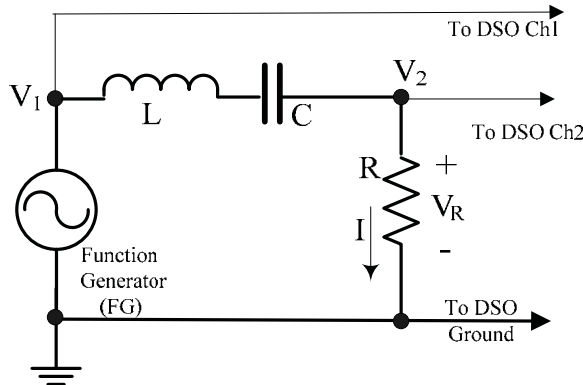

Figure 3.4
to change from negative values (current  $I$  leads voltage  $V$ ) to positive values (current  $I$  lags voltage  $V$ ). **The above ‘lead’ and ‘lag’ situations can be seen on (and measured from) the DSO display of the  $v(t)$  and  $i(t)$  waveforms.** Since an oscilloscope basically displays voltage inputs, it will be necessary to obtain a voltage signal that is directly proportional to  $i(t)$ . In the above circuit, such a signal is readily available as the voltage drop  $v_R(t)$  across  $R$ . Since  $v_R(t) = R i(t)$ , the  $v_R(t)$  waveform displayed will in fact be a scaled version of  $i(t)$ ,  $R$  being the scaling factor. Thus, a display of both  $v(t)$  and  $i(t)$  can be achieved by using the circuit shown in Figure 3.4, which is
The circuit of Figure 3.4 also allows the determination of the total impedance  $Z$  connected to the FG. Taking  $V_1 \angle 0^\circ$  as the reference being displayed on Ch1, the signal on Ch2 is  $V_2 \angle \theta^\circ$  where  $\theta^\circ$  is the measured lead or lag magnitude given by  $(360 f \Delta t)$ degrees. Since  $V_2 \angle \theta^\circ = R I \angle \theta^\circ$ , we have
**In the experiment, circuits similar to the one in Figure 3.4 will be used to observe voltage-current phase relations and to measure the impedance of some test circuits. .**